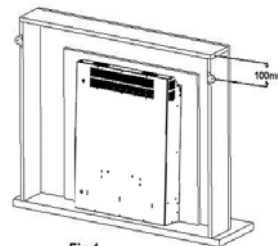

Fig.1
1 - Screw the 2 off Mirror brackets (B) to the rear of each leg at 100mm from the top of the suite using the 4 - off 5/8" screws (C) see **Fig.1**